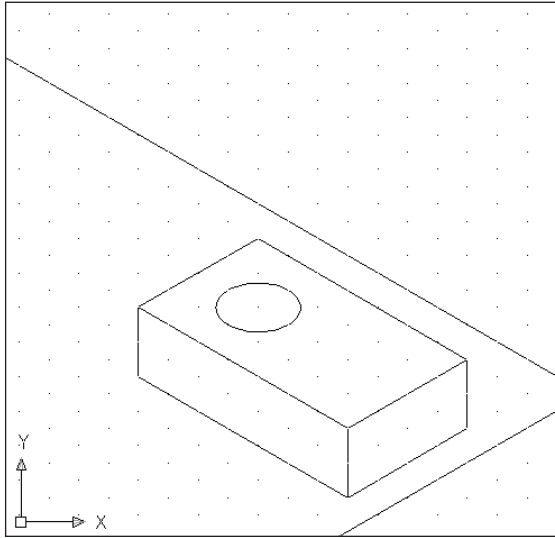

Figure 8-29: The completed iron plate with a hole in it, drawn isometrically
13. Choose Ellipse from the Draw toolbar. Right-click and choose Isocircle from the shortcut menu. At the Specify center of isocircle: prompt, choose 5.1962,3. At the Specify radius of isocircle or [Diameter]: prompt, type .5 ↵. AutoCAD draws the ellipse. Your drawing should look like Figure 8-29.